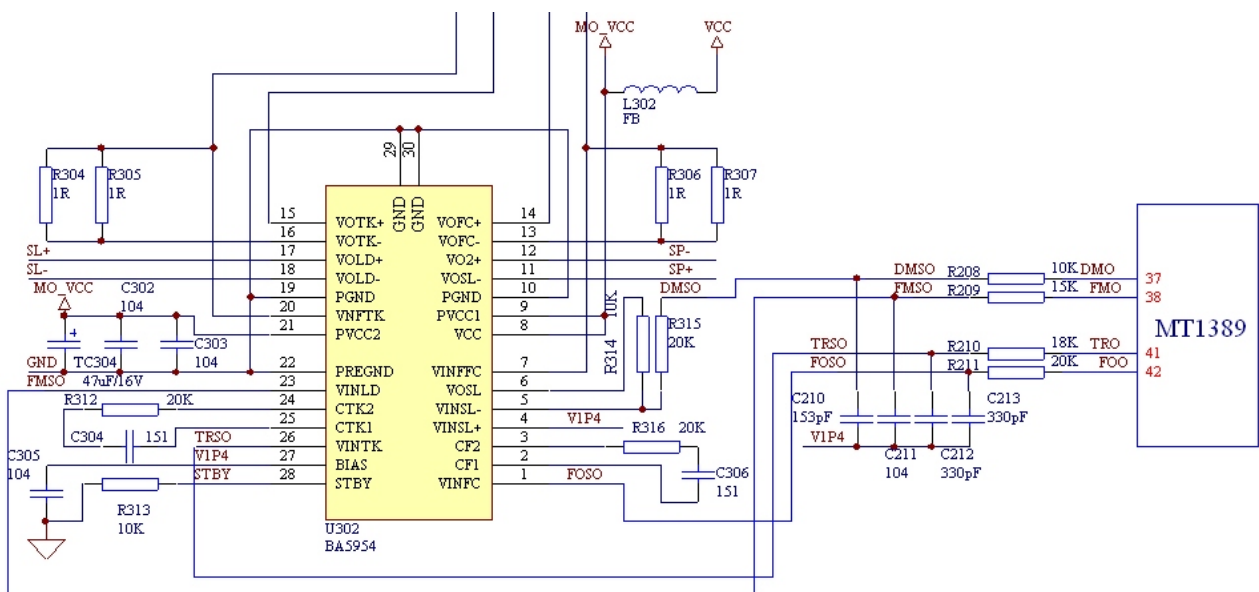

Figure 3.6.1.5 Servo drive circuit diagram
Step 1: as shown in the figure 3.6.1.5; check nerve flat cable socket on Xs301 and find no abnormalities.